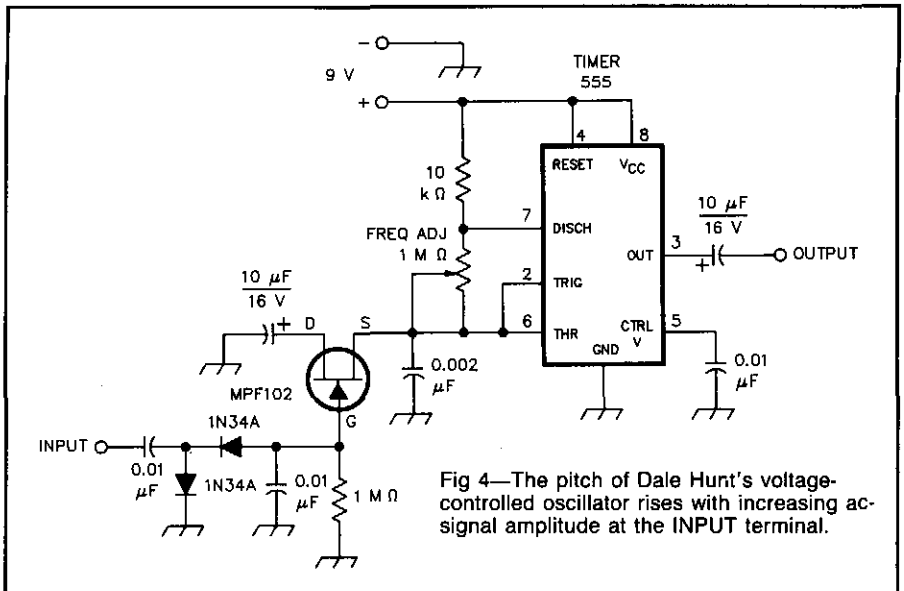

Fig 4—The pitch of Dale Hunt's voltage-controlled oscillator rises with increasing ac-signal amplitude at the INPUT terminal.
□ Fig 4 shows the circuit for a simple voltage-variable oscillator based on the ubiquitous 555 timer. Its oscillation frequency can be varied over several octaves.